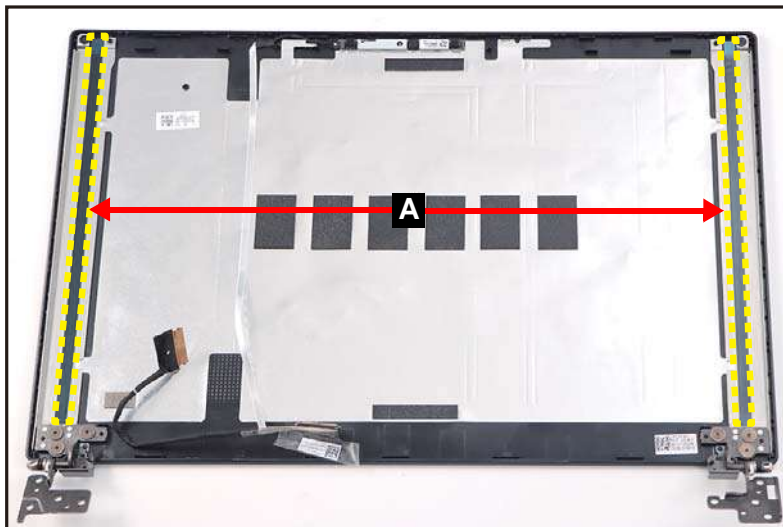

Figure 3-77. Replacing the LCD Panel
1. Adhere the double-sided adhesive mounting tapes (A) on both sides of the LCD hinges and press each tape for about 30 seconds. Then peel off the protective film from the double-sided adhesive mounting tapes (Figure 3-77).
Before applying the new double-sided adhesive mounting tapes, make sure to clean the surface properly with the rubbing alcohol. Then attach the adhesive mounting tapes onto the designated slots as shown in the below illustration (Figure 3-77).